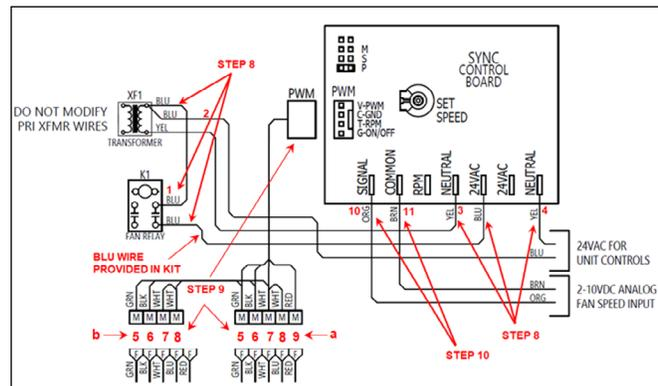

Figure 12 – Sync PWM Electrical Connections
CONNECT POWER AND FAN RELAY TO SYNC PWM (See Figure 12)
CONNECT MOTOR CONTROL SIGNAL TO SYNC PWM (See Figure 12)
CONNECT 2-10VDC SIGNAL WIRES TO SYNC PWM (See Figure 12)
- Ensure that the new wires have been connected as specified in Figure 12.